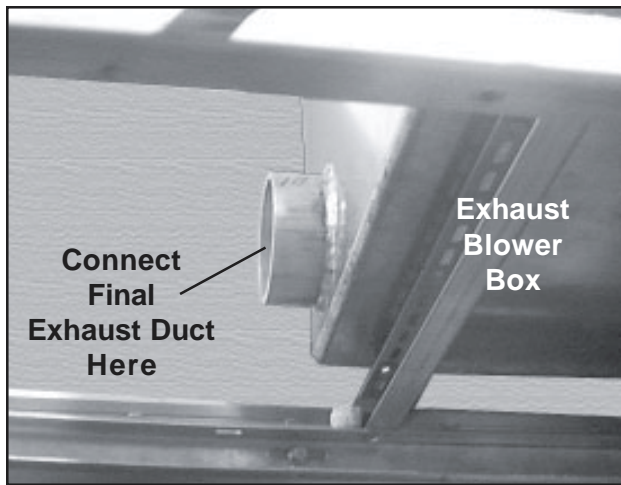

Figure 26. Final Exhaust Duct Connection
8. Fit one end of the duct to the port on the rear of the exhaust blower box (Figure 26).